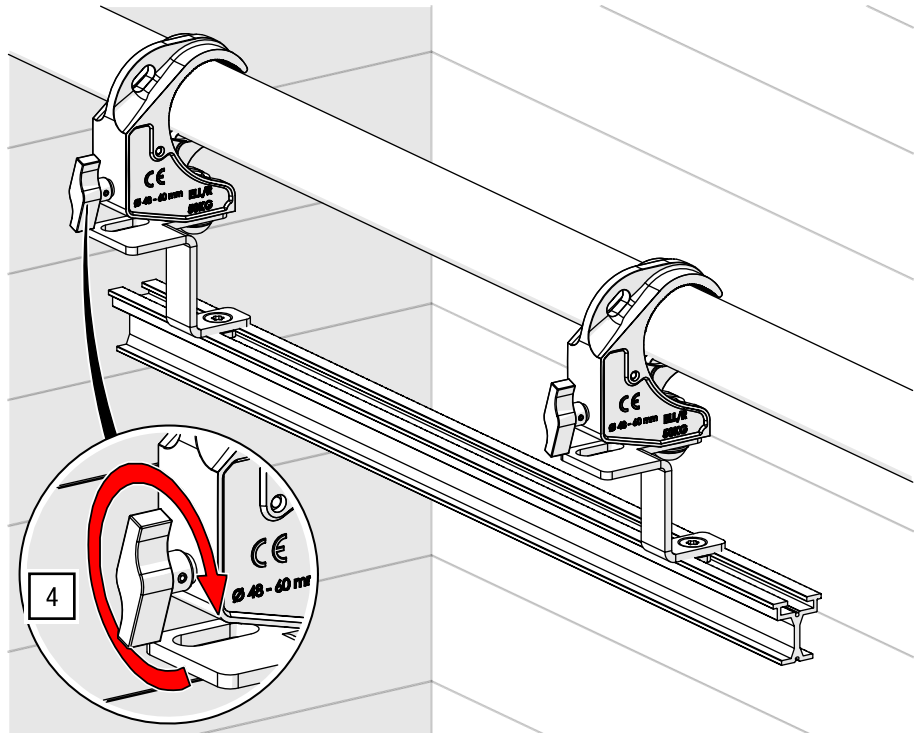

Fig. 66: G-CLAMP – Attach to pipe
4. Fasten the G-CLAMP hand-tight to the pipe (see Fig. 66).